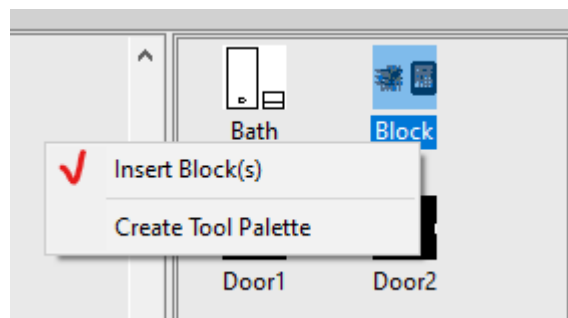

Fig. 59. Insert the block
4. In the Blocks section select the block named Block, right click on it – choose the Insert block(s) option (fig. 59):